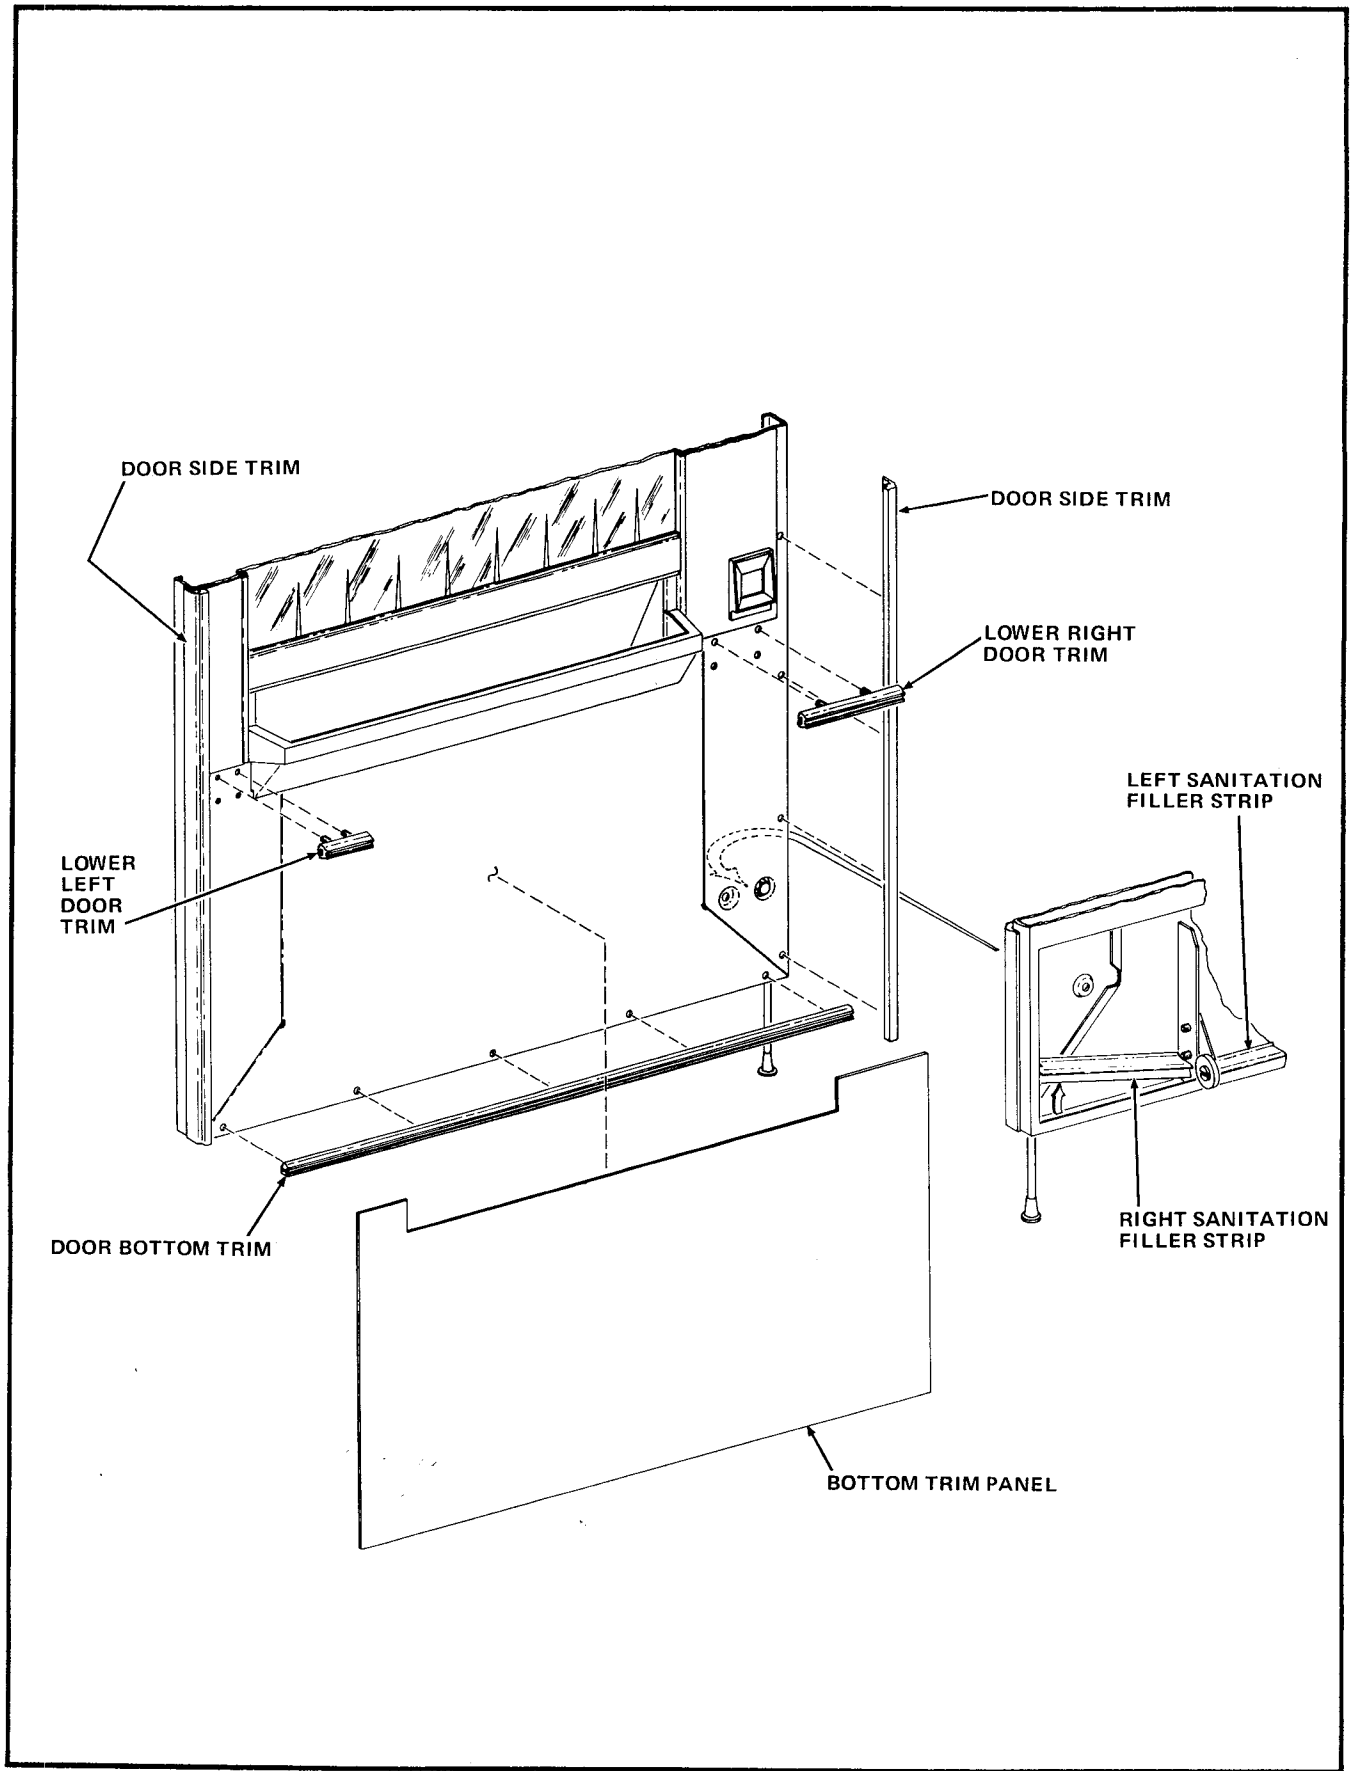

FIGURE 1
2. Remove the Left and Right Sanitation Filler Strip from the inside bottom of the Cabinet Door. See Figure 1.
3. Remove two No.8-32 Nuts W/LW, the Lower Right Door Trim, and two Trim "T" Bolts from the Cabinet Door. Retain the Trim "T" Bolts and Nuts. See Figure 1.
5. Remove two No.8-32 Nuts W/LW, the Lower Left Door Cabinet Door. Retain the Trim "T" Bolts and Nuts. See Figure 1.
6. Remove and retain nine No.6x 7/16 Round Head Sheet Metal Screws and either Door Side Trim from the Cabinet Door. See Figure 1.
7. Remove and retain five No.6 x 7/16 Round Head Sheet Metal Screws and the Door Bottom Trim from the Cabinet Door. See Figure 1.
9. Remove the Bottom Trim Panel from the Cabinet Door. See Figure 1.